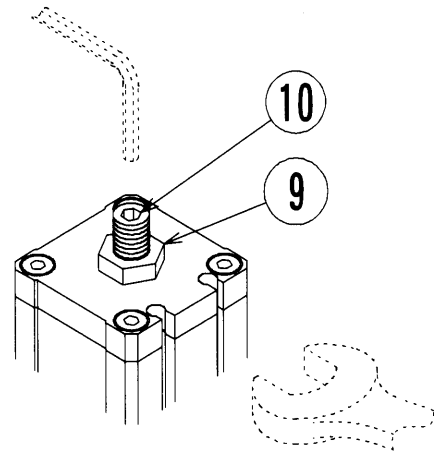

Fig.1
Hold bypass valve adjusting bolt⑩ with hexagon wrench to loosen the lock nut. (Fig.1)